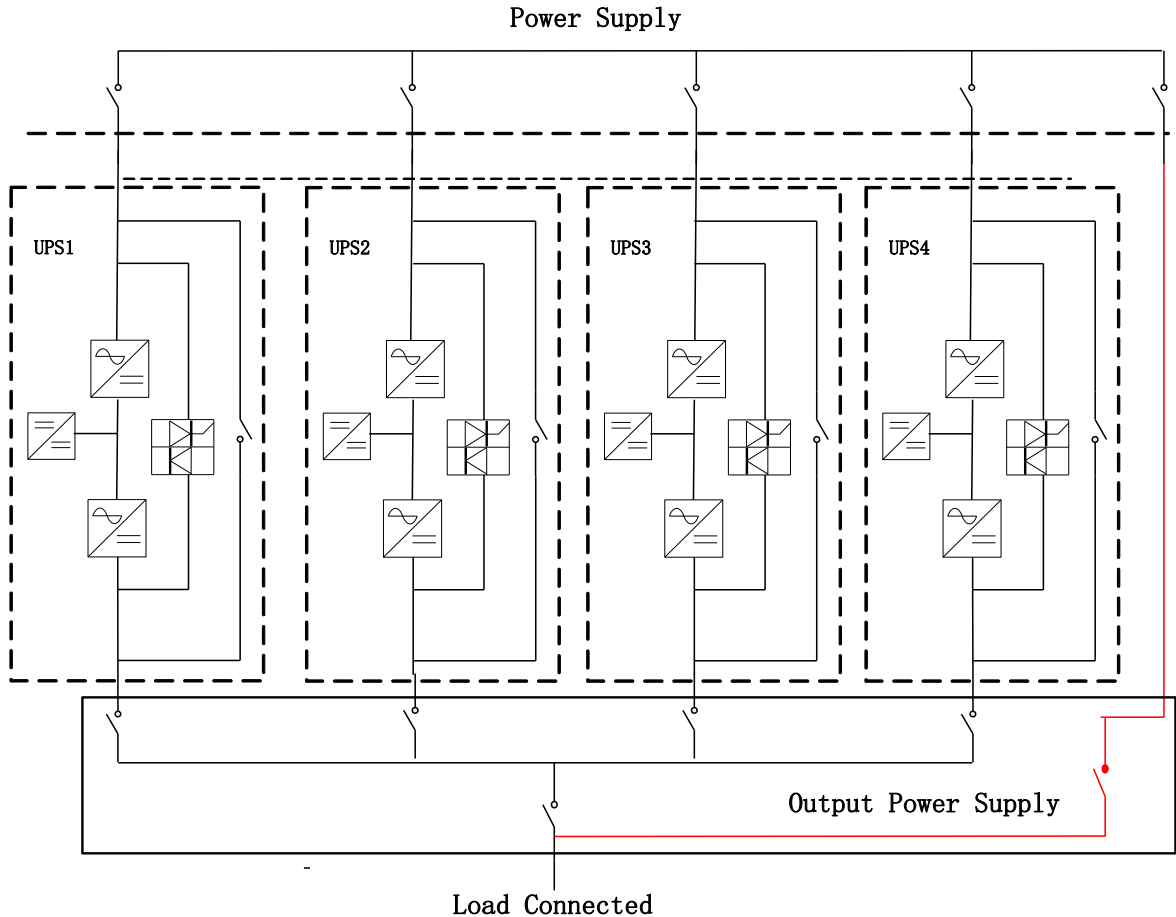
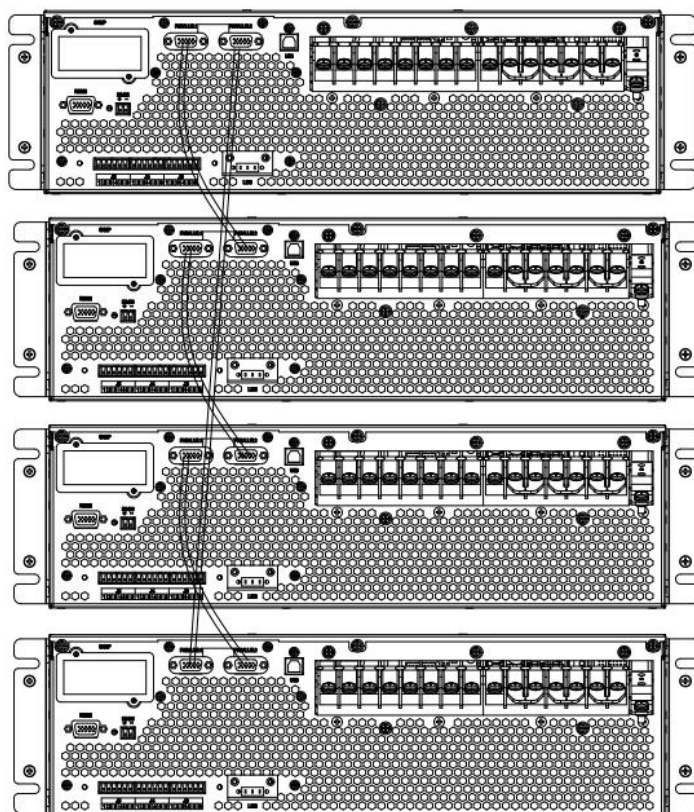

Fig. 4-6 Parallel diagram
Fig.4-8 Parallel connection
2. Press the red button for the battery cold start (See Fig.4-6). The system is then powered by the battery.
Fig.4-6 the position of the battery cold start button
All the parallel cables are designed to be shielded and double insulated, and are connected between the UPS to form a loop as shown below in Fig.4-8.
For field installation, please connect the cables according to Fig.4-6 and Fig.4-8. In order to assure that all units are equally utilized and to comply with relevant wiring rules, the following requirements apply: